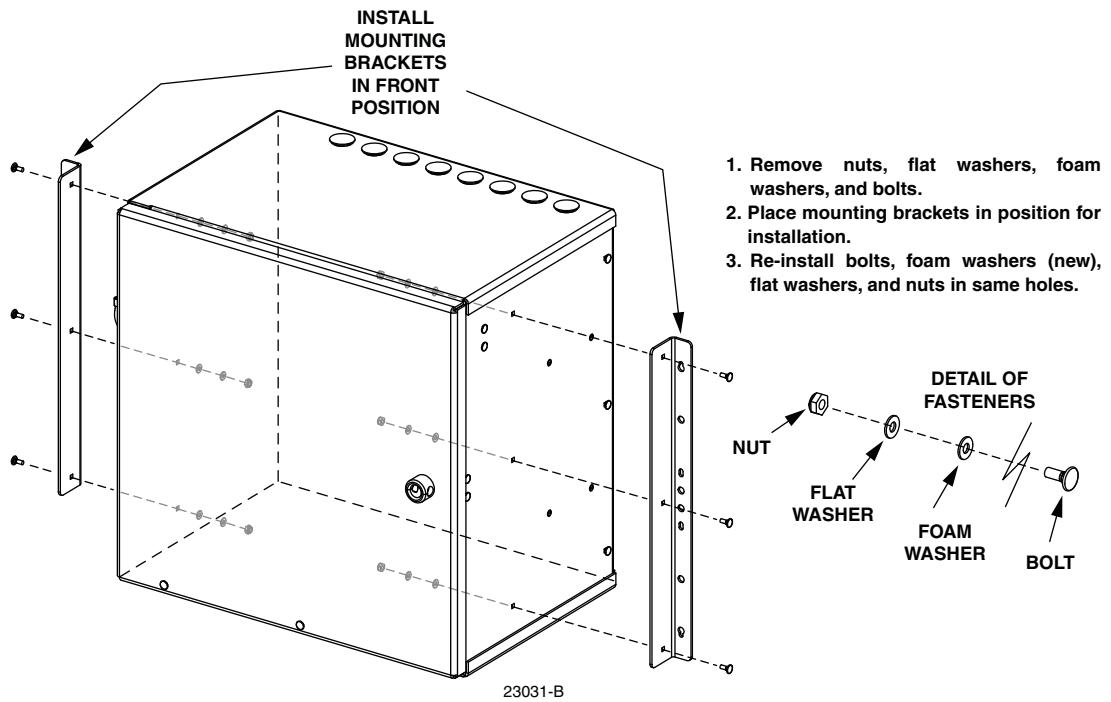

Figure 4. Install Mounting Brackets in Front Mounting Position
5. Remove the nuts, flat washers, foam washers, and carriage bolts (three of each per side) that are installed in the front bracket mounting holes as shown in Figure 4.
6. Using the carriage bolts, foam washers, (use new foam washers) flat washers, and nuts removed in step 5, reinstall the mounting brackets in the front mounting position (see Figure 4). Tighten nuts securely.